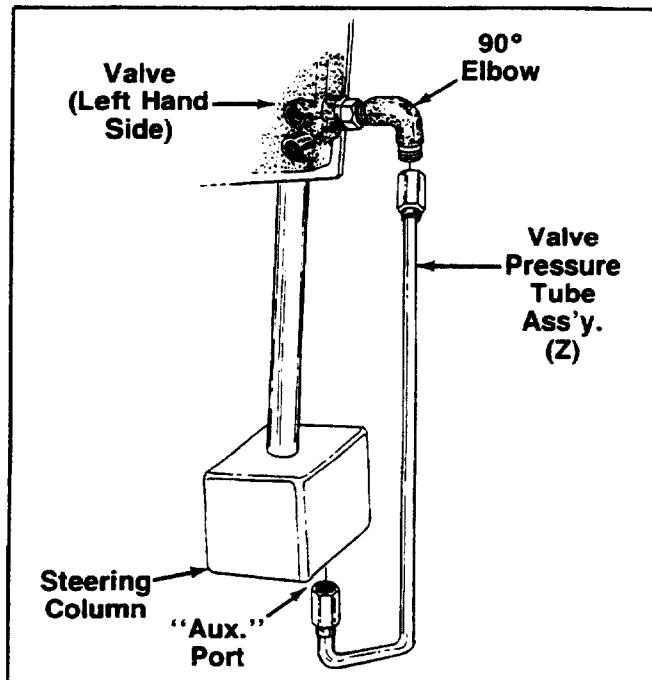

FIGURE 21.
13. Assemble the valve pressure tube assembly (Z) to the 90° tube elbow located on left hand side of valve. **Do not tighten at this time.** See figure 21. Assemble the other end of the valve tube assembly to the "Aux." port on bottom of steering column and tighten securely. See figure 21.